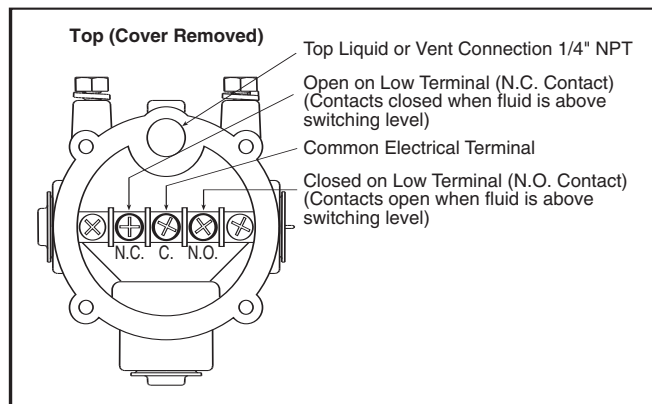

Figure 3 - Liquid Level Switch Terminals
Step 4 - Remove the screws securing the electrical housing cover and remove the cover (see Figure 3).